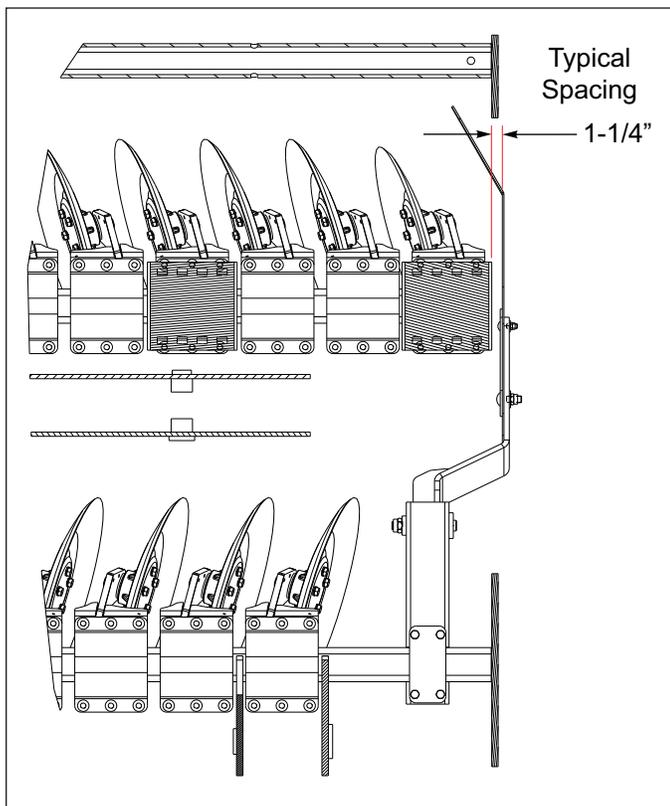

Figure 4-6: Adjusting the Blade Level
- If the ground speed will be ten miles per hour or more, gap the blade leveler laterally a bit further left of the left end cap of the left rear gang for most working conditions. For most working conditions, it is most effective when positioned approximately 1” to 1-1/2” to the left of the left rear gangbars left side end cap. See Figure 4-6